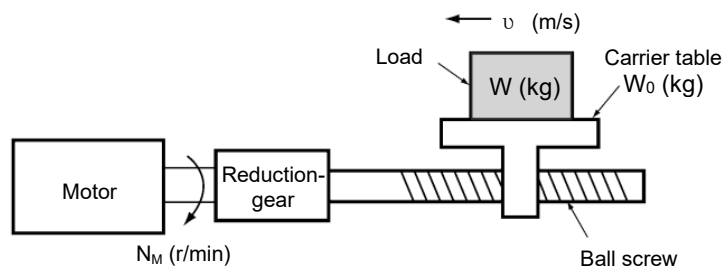

Figure 10.3-1 Moving a load horizontally
A simplified mechanical configuration is assumed as shown in Figure 10.3-1. If the mass of the carrier table is W_0 (kg), the mass of the load is W (kg), and the friction coefficient of the ball screw is μ , then the friction force F (N) is expressed as follows (Equation 10.3-3), which is equal to the required force for driving the load horizontally:
Assume a carrier table driven by a motor as shown in Figure 10.3-1. If the table speed is u (m/s) when the motor speed is N_M (r/min), then an equivalent distance from the shaft is equal to $60 \cdot u / (2\pi \cdot N_M)$ (m). The moment of inertia of the table and load in relation to the shaft is calculated as follows (Equation 10.3-13):